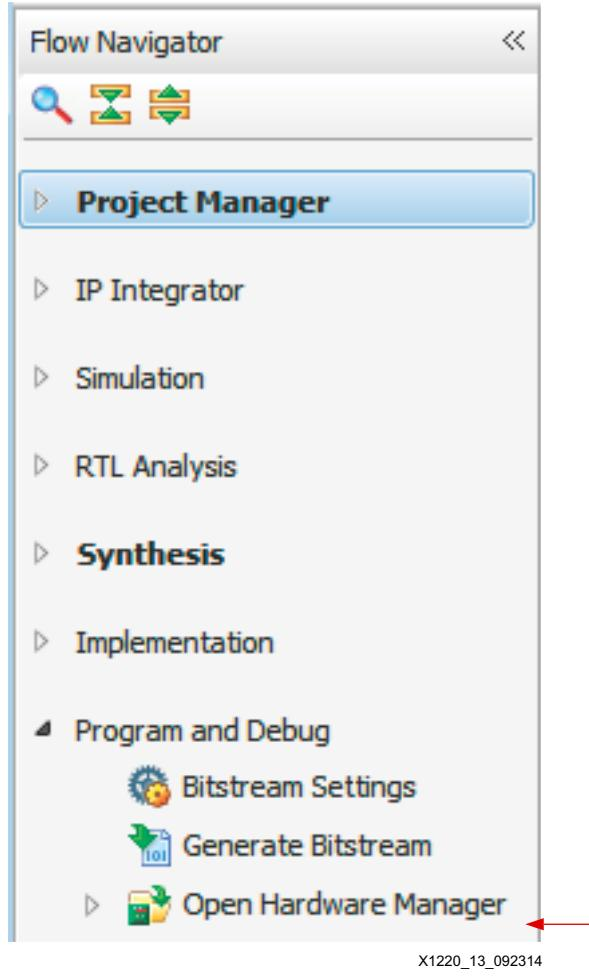

Figure 13: Flow Navigator Window
1. Open the Vivado Hardware Manager. In the Flow Navigator panel, under the **Program and Debug** tab, click **Open Hardware Manager** as highlighted in Figure 13. Alternatively, select **Flow > Open Hardware Manager**.